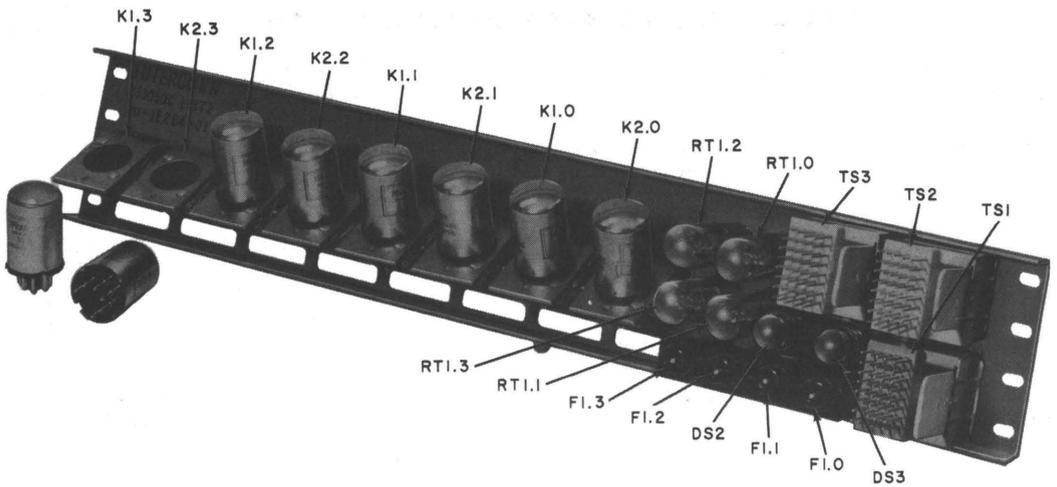

Fig. 1—J53050C, List 2 Interconnecting Unit
- J53050C, List 2 Interconnecting Unit, for Voice Connecting Arrangements C27 and C2K—each unit provides four signal isolation (applique) circuits. (See Fig. 1).